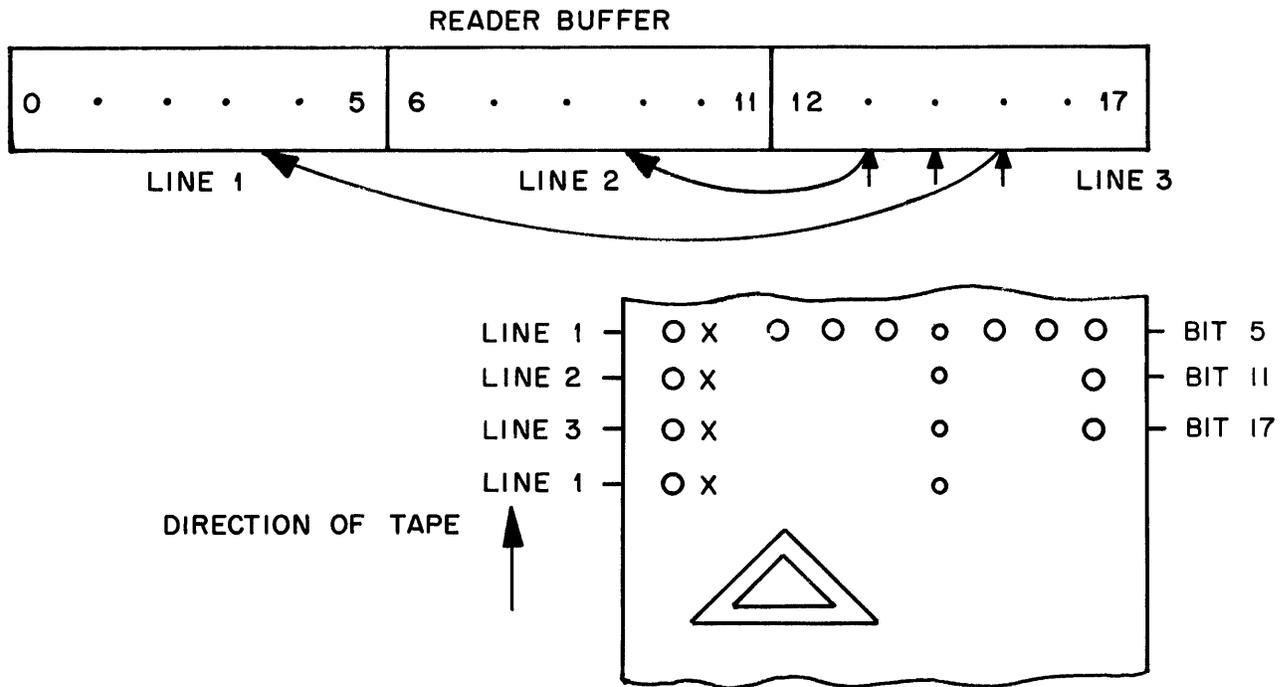

Figure 7-4 Binary Perforated Tape Format and Reader Buffer Bit Assignment
**BINARY MODE:** In the binary mode, select the instruction causes three lines of tape to be read. The first six bits of each line are assembled in the buffer, thus three lines form a single 18-bit word. The seventh bit is ignored. However, a character is not read unless the eighth bit is punched. See Figure 7-4.